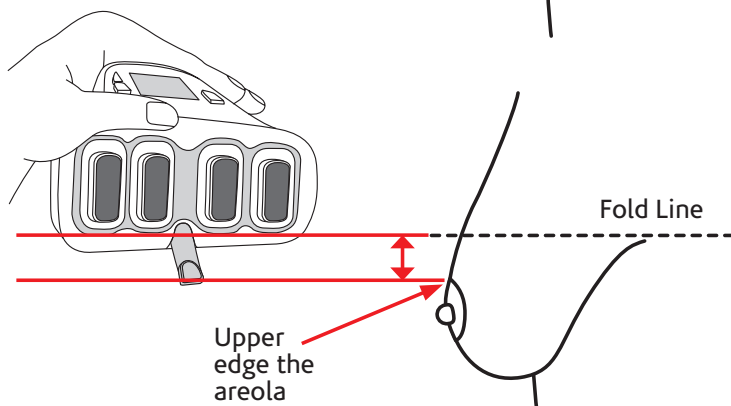

Figure 8: Comparing the fold line of the breast with the upper edge of the areola
1. In cases where the fold line is **BELOW** your areola, as shown in *Fig. 8 Case A*, the locator bar should be fully closed if the upper edge of the areola (marked with an arrow in *Fig. 8 Case A*) is higher than the fold line of the breast.
2. In cases where the fold line is **ABOVE** your areola, as shown in *Fig. 8 Case B*, please extend the locator bar according to the shortest length possible that matches that distance, as specified in *Fig. 8 Case B*. The electrodes of the monitor should touch the breast just above the height of the fold line. Thus the measurement location is not too far above the areola and yet not too near the hanging section of the breast.